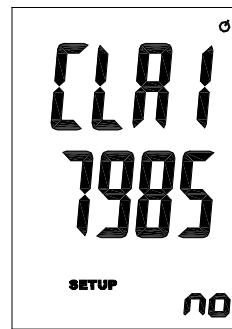

Fig. 5
2. Use the **▲/T1-T2** and **Hold/▼** buttons to scroll to the **CLR memory** option screen (Fig. 5). The screen indicates the number of sample points remaining.
3. Press **Rec/Enter** button and "No" appears on the screen. (Fig. 5)